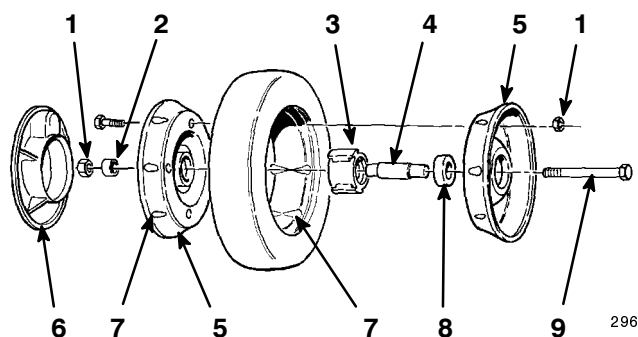

Figure 35
3. Remove the cap screw, the wheel spacer, and the locknut mounting the wheel to the pivot arm (Fig. 35).
4. Separate the wheel halves from the tire by removing four cap screws and four locknuts (Fig. 35).
Note: If you remove the bearings from the bearing/hub assembly, remove them by pressing on the bearing spacer (Fig. 35).
1. Position the tire onto one wheel half, aligning the lugs on each (Fig. 35).
2. Place the bearing/hub assembly into the center hole of the wheel half. Ensure that the legs of the hub are positioned over the flange of the hole (Fig. 35).
3. Place the other wheel half onto the bearing/hub assembly, aligning the wheel and the tire lugs and the mounting holes (Fig. 35).
4. Using two 1/4-20 x 1.50 in. (6 x 38 mm) fully threaded screws or bolts and non-locking nuts, loosely secure the wheel halves together. Mount the screws or bolts in the opposing holes (Fig. 35).
5. Check the alignment of all parts and tighten the screws, alternating from side to side for a uniform fit, until the wheel halves are drawn together (Fig. 35).
6. Install the two cap screws and two locknuts previously removed in the remaining holes in the wheel halves and tighten. Remove the two long screws or bolts and replace them with two cap screws and two locknuts (Fig. 35).
7. Install the wheel to the pivot arm with the cap screws, a spacer, and a locknut. Ensure that the spacer is positioned between the wheel hub and the pivot arm (Fig. 35).